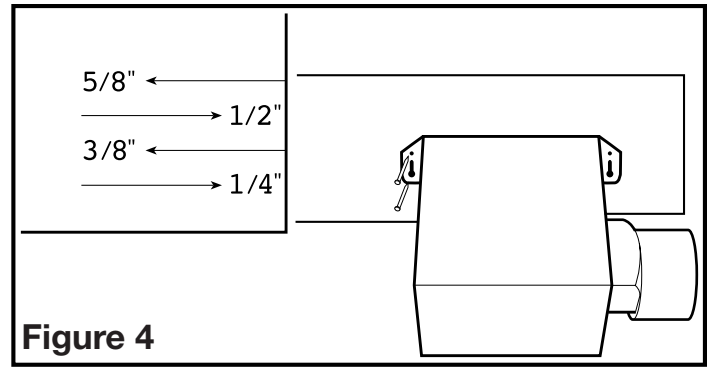
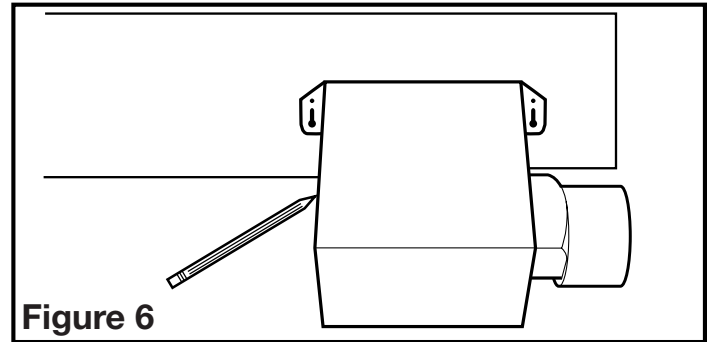

Figure 4
Figure 6
2. **Mounting Tab Installation:** Using the gauge on the fan's housing, line up housing so that it will be flush with the finished ceiling. Position the fan so that the tabs rest flat against the joist and secure with four nails (not provided) to ensure proper installation (**Figure 4**).
2. **Mounting Tab Installation:** Position housing against the joist and trace an outline of the housing onto the ceiling material (**Figure 6**). Set housing aside and cut opening, being careful not to cut or damage any electrical or other hidden utilities. Place housing next to the joist and insure that it is flush with the finished ceiling. Secure with four nails (not provided) to ensure proper installation (**Figure 4**).